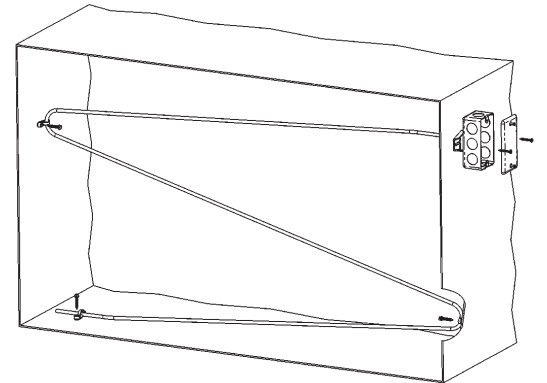
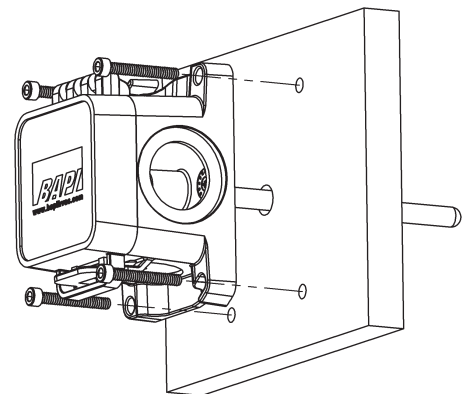

Fig. 2: Flexible Sensor Horizontal Mount (Best for Vertical Stratification)
Fig. 4: BAPI-Box Crossover Mounting to the Duct
1. Place the sensor in the middle or top of the duct as shown in Figs 2 or 3 and drill the probe and mounting holes as shown in Fig 4.